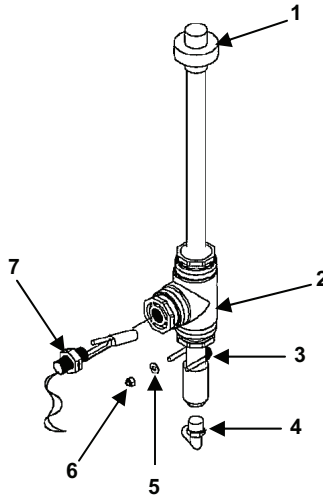

Figure 4. Level Switch Piping.
1. Loosen the union (Figure 4, Item 1). Remove nuts (Figure 4, Item 6) and washers (Figure 4, Item 5) from the U-bolt (Figure 4, Item 3).
2. Remove hose from the elbow (Figure 4, Item 4). Remove level switch (Figure 4, Item 7) from the holder (Figure 4, Item 2) only if necessary.